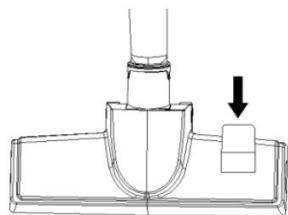

Fig.12
3. Fig.12 - tread on the pedal of the brush tool to expose the bristles for flat or smooth flooring.